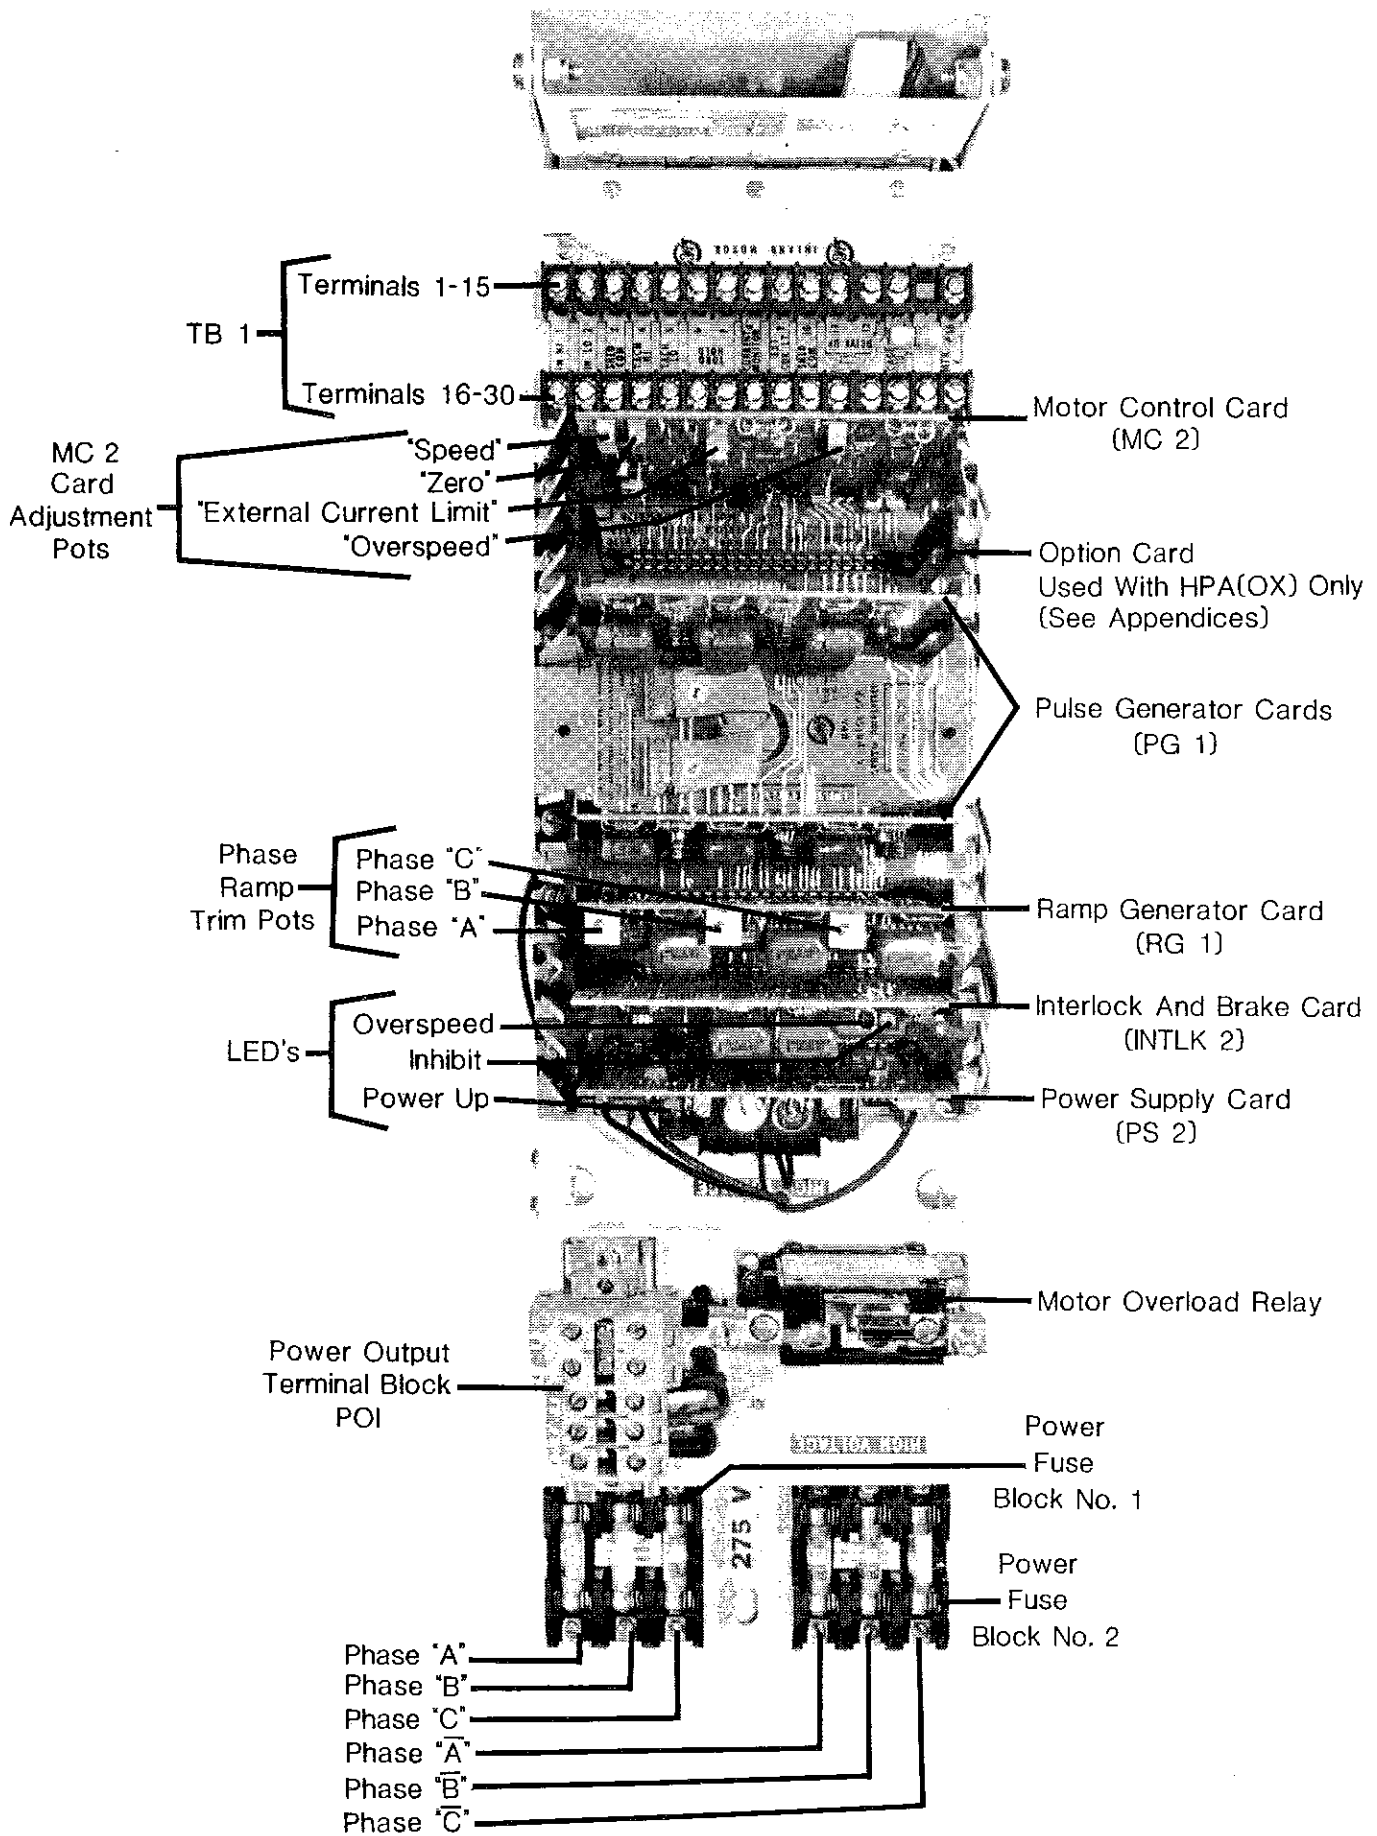

FIGURE 1
5.0 ADJUSTMENTS (Refer to Figures 1, 6, 8, and 10)
5.1 Speed Scale Factor Adjustment, Position Loop Machines (Refer to Figures 1 or 6)
5.2 Speed Scale Factor Adjustment, Manually Controlled Machines, (Refer to Figures 1 or 6)
- (2) Apply command signal of desired voltage level, which represents maximum speed, to TB1-1 and 2. Adjust SPEED pot on MC 2 card for desired tach feedback as monitored at TP106 on MC 2 card. In the example above the tach feedback should be 38 volts when the motor runs at the speed of 2000 RPM.
5.3 Zero Adjustment (Refer to Figures 1 or 6)
5.4 Bias Adjustment (Refer to Figures 1 or 8)
5.5 Overspeed Adjustment (Refer to Figures 1 or 6)
5.6 Power Supply Adjustments (Refer to Figures 1 or 10)
5.7 External Current Limit Adjustment (Refer to Figures 1 or 6)